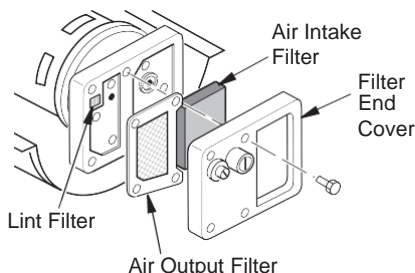

Figure 10 - Air Output, Air Intake and Lint Filters
2. Remove filter end cover screws using 5/16" nut-driver (see Figure 10).